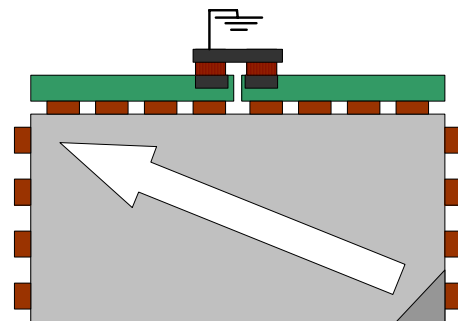

Fig.3 Direction peeled off
• The protection film should be peeled as Fig.3